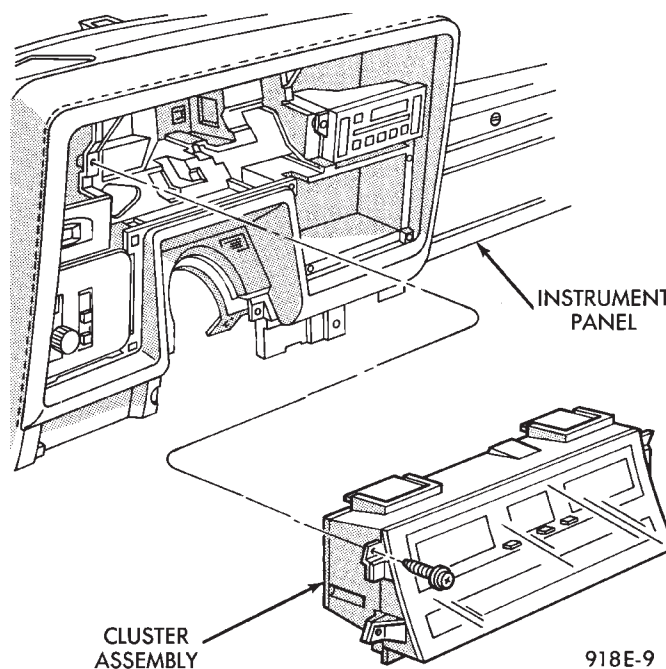

Fig. 9 Instrument panel Bezels
- (1) Disconnect battery to assure no air bag system fault codes are stored.
- (2) Remove cluster bezel (Fig. 9).